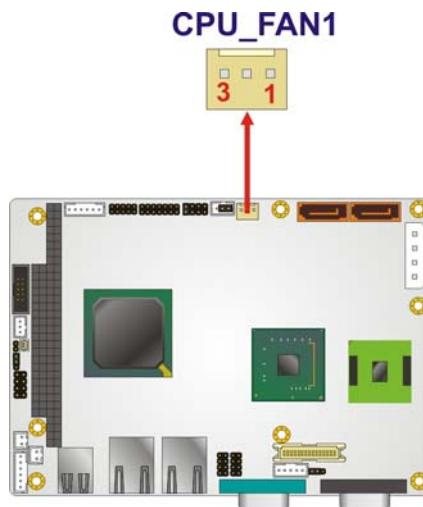

Figure 3-10: +12V Fan Connector Location
**CN Location:** See Figure 3-10